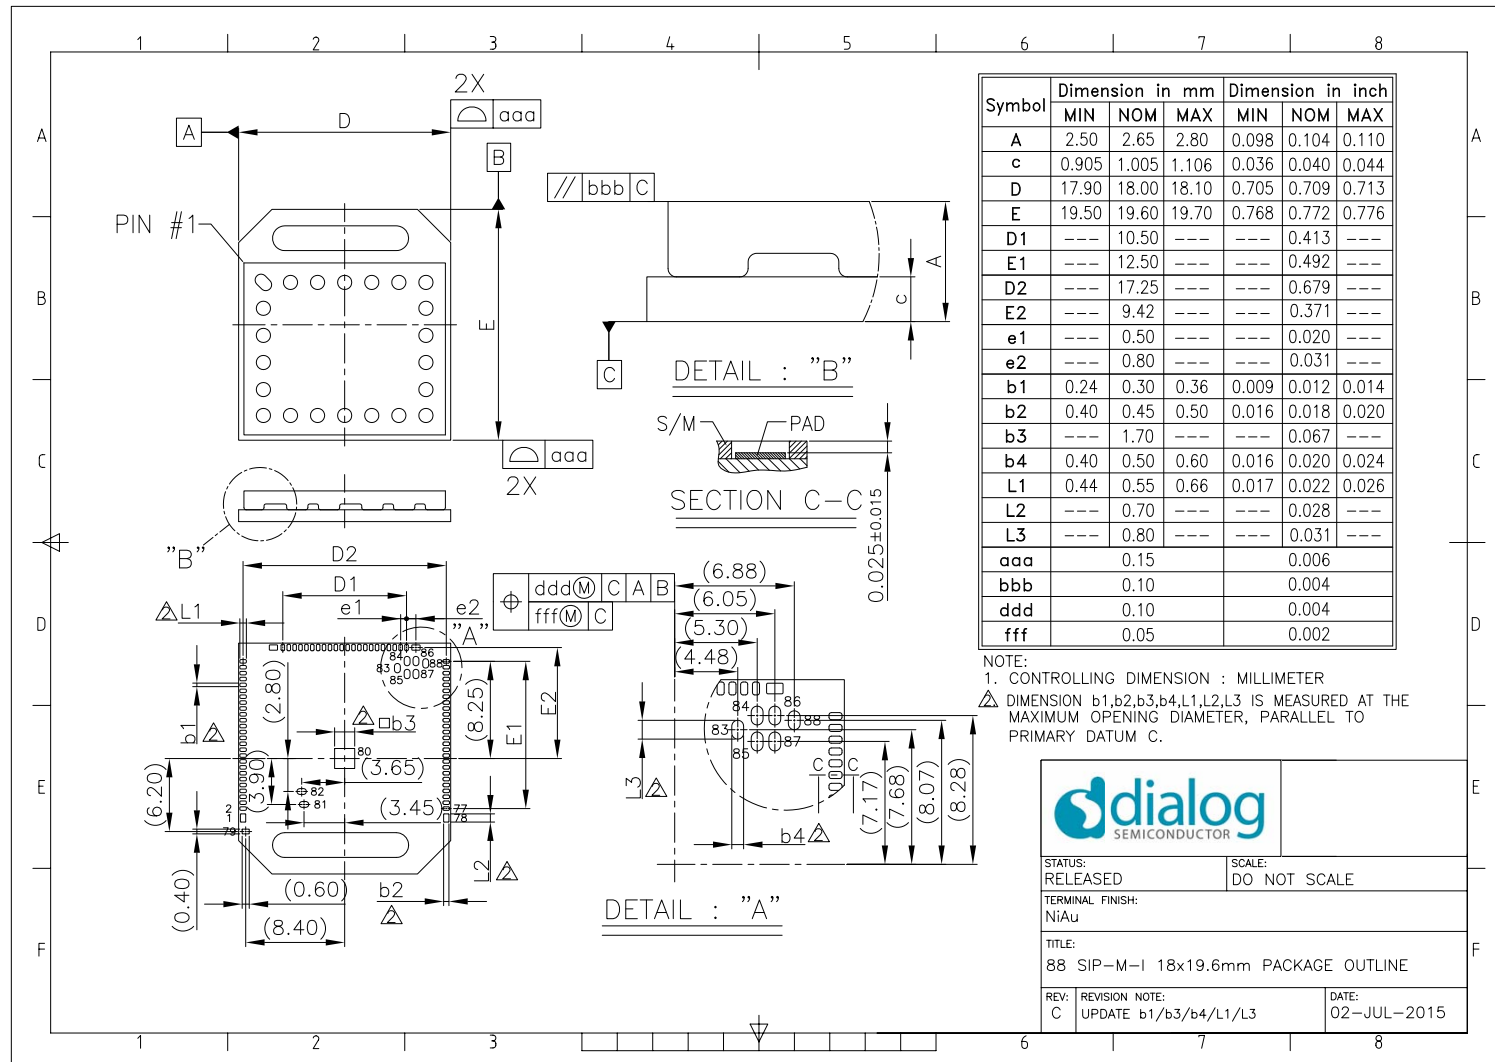

Figure 43: Package outline drawing
- Package outline drawing updated (Figure 43).